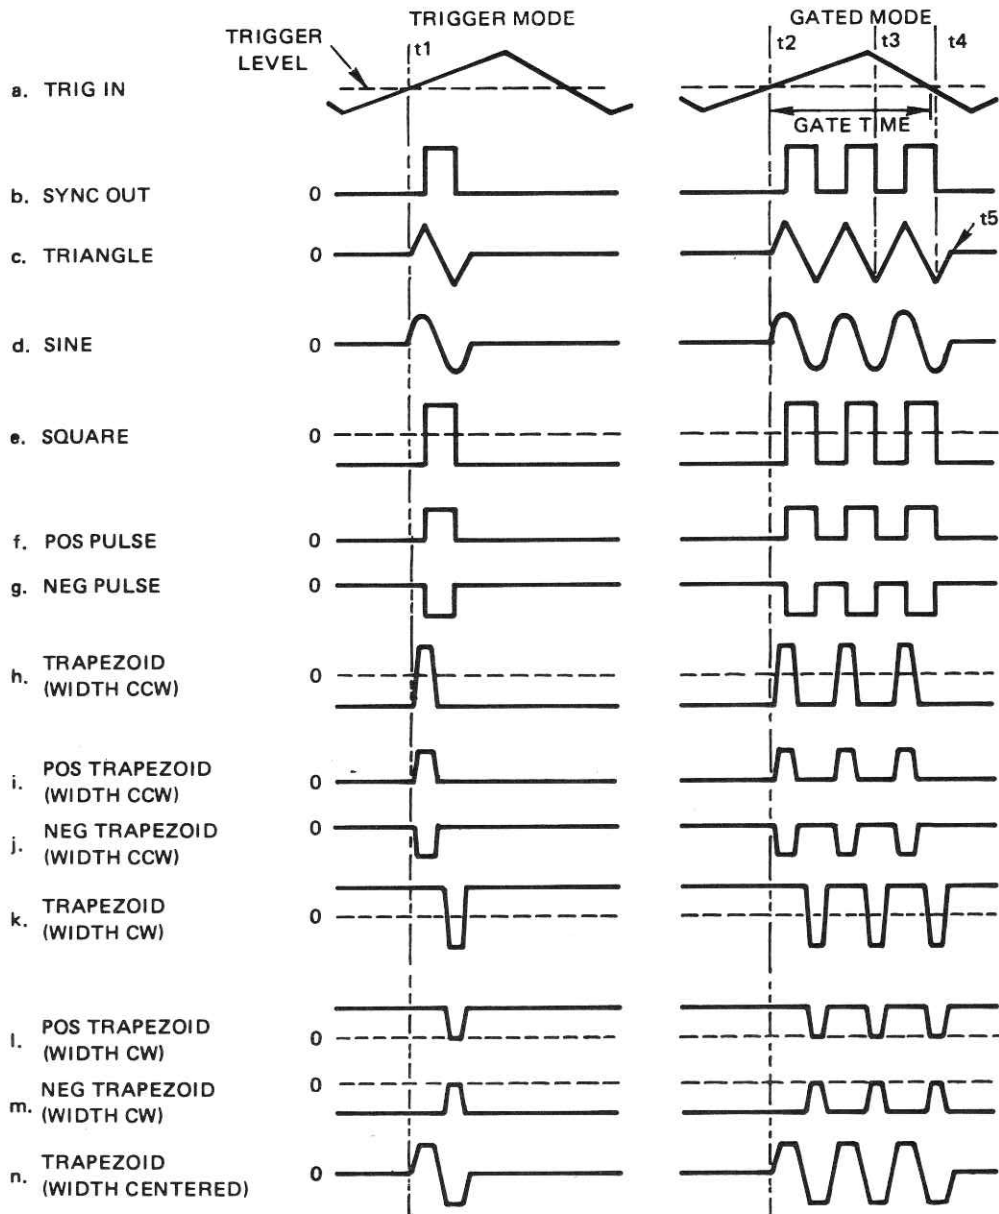

Figure 2-8. Trigger and Gated Operations
2. For external triggering, apply a repetitive signal, any waveform from 1 V p-p to less than ± 50 V peak voltage (see TRIG IN specification, Paragraph 2.3, Item 22), to TRIG IN connector. Set the TRIG LEVEL control for proper triggering. See Figure 2-8 for the timing relationship of the trigger input, sync output and selected waveform output.
With the generator adjusted as in trigger operation, change the GEN MODE control to GATED position. The generator output will then be a burst of cycles. If the trigger is the SWEEP OUT sawtooth waveform, the duration of the burst is adjustable by the TRIG LEVEL control (see Figure 2-8). Notice that the last cycle gated is completed at time t5, if the gate signal is removed between time t3 and t4. In manual gating, set TRIG LEVEL control full ccw. The tone burst continues as long as the manual switch is pressed.